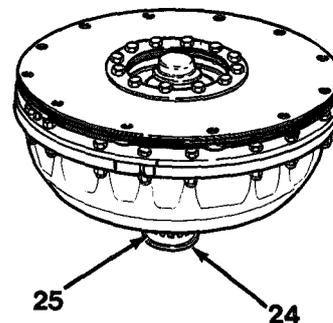

Figure 11-9
12. Install drive plate (4), drive plate assembly (3), drive plate ring (2), and 12 capscrews (1) to converter assembly. Torque 12 capscrews (1) to 30 lb-ft (41 N•m).
13. Install seal ring (24) on impeller hub (25, Figure 11-9).